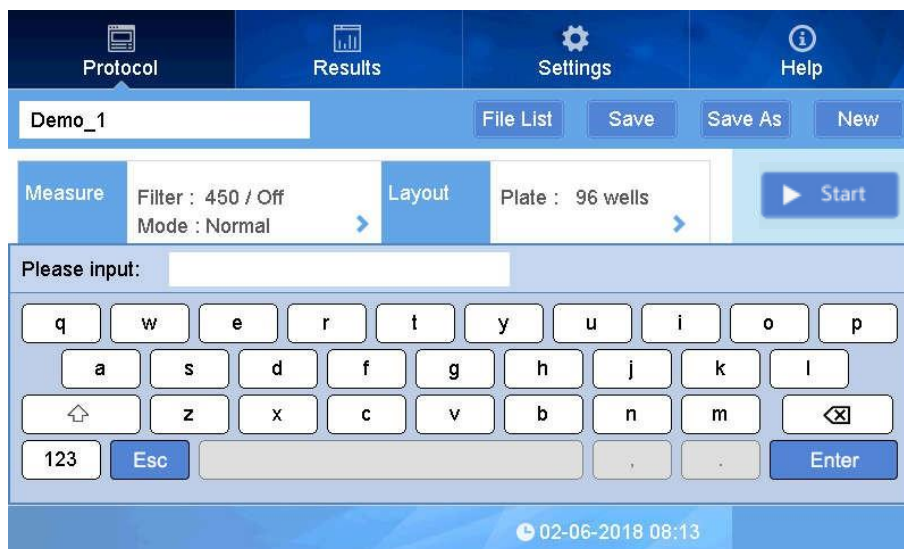

Fig. 10
- Click “▶ Start” on the screen or “Start” button on the front panel to start the running(Fig 10).